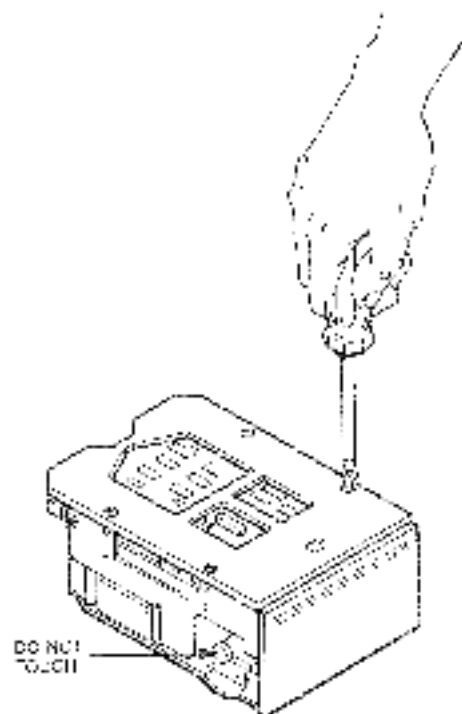

Figure 6-7 RD51 Disk Drive Skid Plate Removal
1. Remove the four Phillips screws retaining the skid plate. Set the skid plate aside (Figure 6-7).